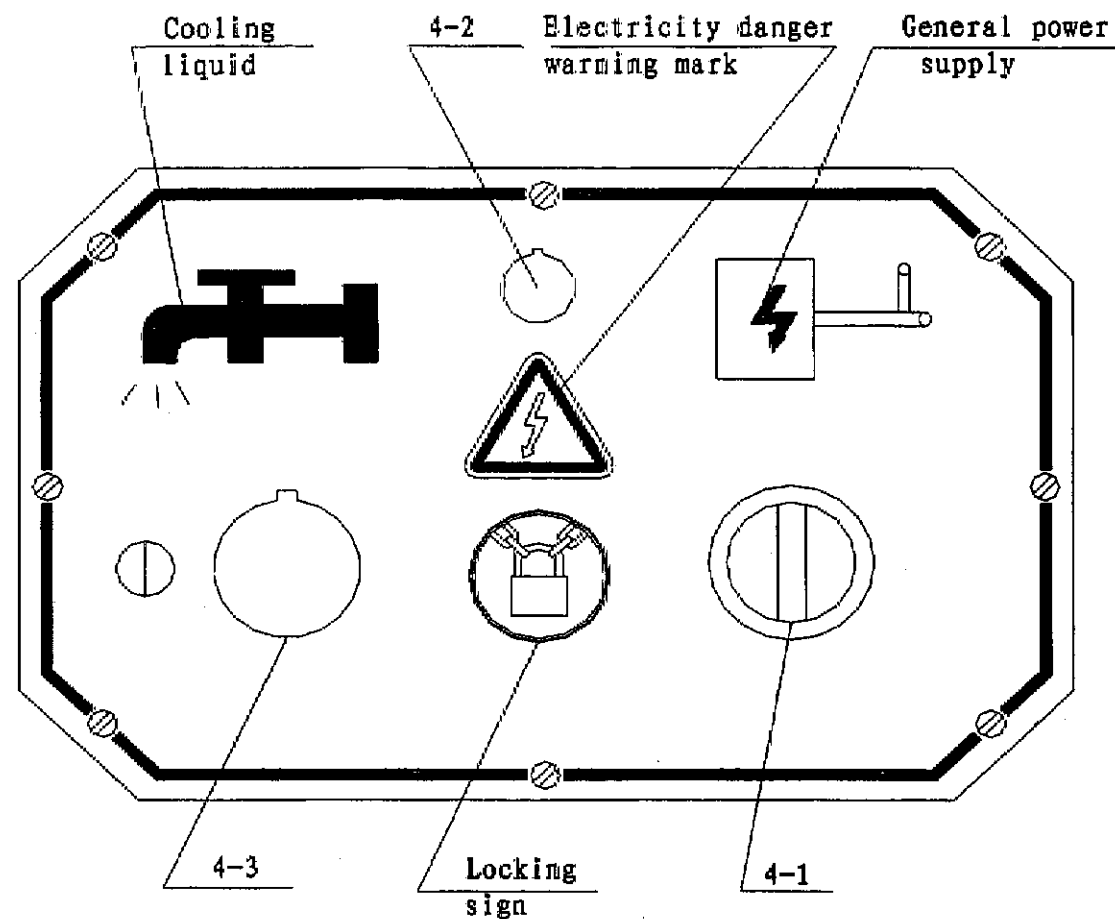

Fig. 4.4 Column Square Door Diagram
- 4.1.1 Turn on the general power supply switch 4-1 at column square door, press down cooling pump start press-button 4-3 (See Fig. 4.4), turn on the lighting lamp switch 1-16 (See Fig. 3.1).
When use cooling liquid, press down the switch 4—3 (see Fig. 4.4), start the cooling